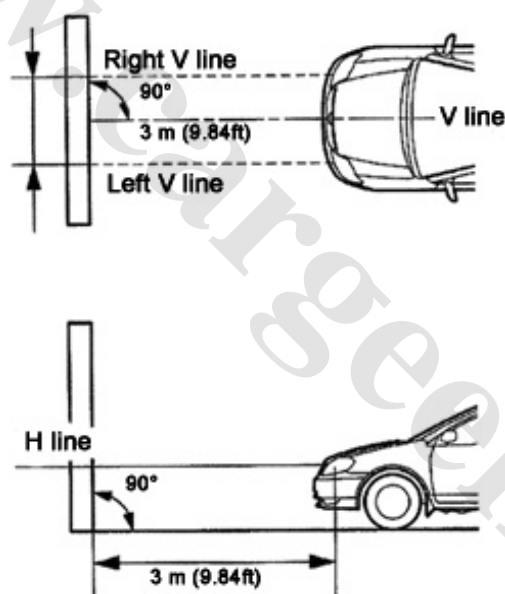
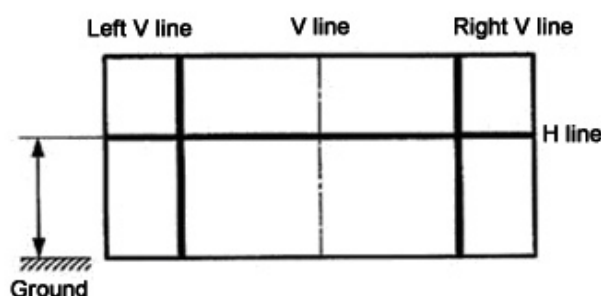

Fig. 4-78
Fig. 4-79
(1) Car preparation: Ensure the part around front combination lamp is not damaged or distorted, fuel tank filled. Make sure unladen mass of complete vehicle: Fill coolant to designated level; charge the tire to proper pressure, put spare wheel, jack, and tool kit to original position, and empty the luggage boot, a man of common weight (75kg) seated at driver's seat.
(2) Focusing preparation: Park the car at a dark place, to observe the boundary between brightness and darkness of the light. The boundary is quite obvious, below which the light of front combination lamp is visible, while above which the light is invisible. The car midline is angulated at 90 degrees to the wall, a distance of 3m between the car and wall available. Park the car on a level ground, several jounces operated to stabilitate the chassis. A thick white paper (2m×4m) is furnished as screen, on the central of which a vertical line is drawn (V-line), as shown in Fig. 4-78, set the screen (erect the screen on the ground, to align the V-line to car midline). As shown in Fig. 4-79, base lines are drawn on the screen (H line, left V line, right V line). The base lines differ from low beam as well as high beam check: Line out the center mark of front combination lamp bulb on the screen, H line (height of front combination lamp) is drawn a horizontal across the screen to traverse the center mark, left V line and right V line (center marks of left combination lamp and right combination lamp respectively) are drawn two verticals to cut H line at their respective center mark.